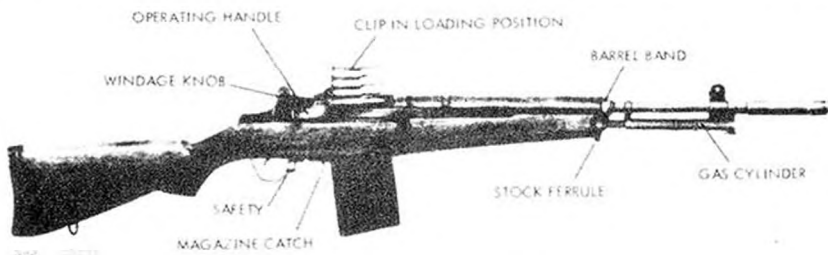
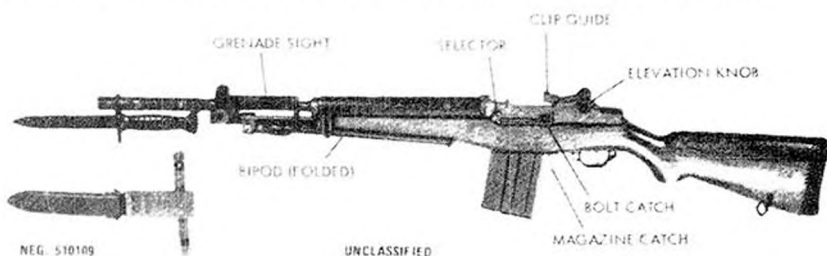

Figure 109. Italian BM 59 Mark 1 rifle.
Figure 110. BM 59 Mark Ital rifle.
a. The Italian BM-59 rifle (fig 109) is based upon the design of the US caliber .30 M1 rifle and resembles the US
7.62-mm M14 rifle. The BM-59 is gas operated, selective fire, and is fed from 20-round detachable box magazines. There are several distinct models of the BM-59, differing primarily in stock design and muzzle devices. All are mechanically identical. The Italian Army uses the BM-59 Mark ITAL (fig 110) and the BM-59 Mark ITAL-A (fig 111) as standard weapons. The other versions are offered for sale and may be encountered in use in some of the smaller armies. BM-59 rifles were also produced in Indonesia.
a. Press the magazine catch (fig 109) toward the magazine and simultaneously rotate the bottom of the magazine forward until the magazine releases from the rifle and can be removed. Load the magazine as described in paragraph 128. Insert the magazine into the receiver and strike with the heel of the hand to insure the magazine is firmly caught in place.
b. If desired, leave the magazine in place, pull the operating handle (fig 109) fully rearward, and release; the bolt will be held open. Insert NATO five-round stripper clips into the clip guide (fig 110) and press the cartridges off the clip into the magazine. Individual rounds can also be placed on the follower and pressed down into the magazine. Adjust the sight for desired range (para 152g).
c. Pull the operating handle (fig 109) fully to the rear and release it. CAUTION: The rifle is now loaded and ready to fire. It is a good practice to tap the operating handle to insure that it is fully forward. If the rifle is not to be fired immediately, press the safety (fig 109) toward the trigger.
e. Set the selector (fig 110) for the type of fire desired: forward for automatic fire, rearward for semiautomatic fire. Push the safety (fig 109) forward. Aim (using a normal sight
f. Clear the BM-59 by first pressing the safety (fig 109) to the rear, then pressing the magazine catch (fig 109) and removing the magazine. Pull the operating handle (fig 109) rearward, press in the bolt catch (fig 110), and ease the operating handle forward until the bolt is held open. Inspect to insure that no cartridges are present. Pull the operating handle rearward and release it, then insert the magazine. Press the safety forward and press the trigger.
g. Adjust the rear sight for the desired range by twisting the elevation knob (fig 110), located to the left of the rear base, until the desired range (number x 100 meters) aligns with the index mark on the receiver. Windage is adjusted by rotating the right-hand knob (fig 109) in the appropriate direction as indicated by the arrow engraved on the knob. The elevation knob can be adjusted for zero by firing the rifle at a known distance target and adjusting the sights until satisfactory results are obtained. Without changing sight elevation, loosen the screw in the center of the elevation knob, turn the drum so that the appropriate range indicator is aligned with the receiver index line, and retighten the screw.
g. Engage the ferrule on the front of the stock with the barrel band (fig 110). Lower the stock onto the barrel and receiver. Insert the trigger group straight into the opening on the stock, insuring that the ribs on the trigger housing mate with their grooves in the receiver. Fully seat the trigger housing and press the
b. When the weapon is loaded and the trigger pressed, the hammer strikes the firing pin and fires the cartridge. The propellant gases drive the bullet down the barrel bore and, after the bullet passes the gas port, some of the propellant gases enter the gas cylinder (fig 109) and drive the operating rod rearward. The driving spring is compressed, the hammer rocked rearward, and, after a short distance, the cam in the operating rod hump contacts the bolt operating lug. Continued operating rod travel causes the bolt to rotate to its unlocked position and then move rearward. The extractor pulls the fired cartridge case from the chamber (initial extraction occurred as the bolt unlocked by the left-hand locking lug contacting a cam surface) and holds it to the bolt until the fired case clears the chamber. The spring-loaded ejector expands and hurls the fired case out of the weapon. The operating rod finally strikes the front of the receiver and stops. The driving spring then forces the operating rod and bolt forward. As the bolt moves, its feed rib drives the top cartridge out of the magazine and into the chamber. The bolt stops when it strikes the barrel, but the operating rod continues forward. During this final forward movement, the cam in the operating rod rotates the bolt to its locked position; as this occurs, the extractor snaps into the groove of the cartridge case and the ejector spring is compressed. Forward motion ceases when the end of the cam groove in the operating rod strikes the operating lug of the bolt.
a. The BM-59 can be used to launch 22-mm inside diameter tubed grenades. The compensator (fig 111) serves as a grenade launcher, as a muzzle brake and as a compensator. BM-59's used to fire grenades are equipped with a folding grenade sight (fig 110). Prior to firing a grenade, erect the sight; this will automatically cut off the gas mechanism. Load the rifle with a grenade-launching cartridge. (CAUTION: Never use a cartridge with a bullet! Use only special launching cartridges without bullets. Use of bullet rounds to launch grenades will kill the shooter!) Place the weapon on safe and slide a grenade over the launcher. The grenade must slide onto the launcher easily, without